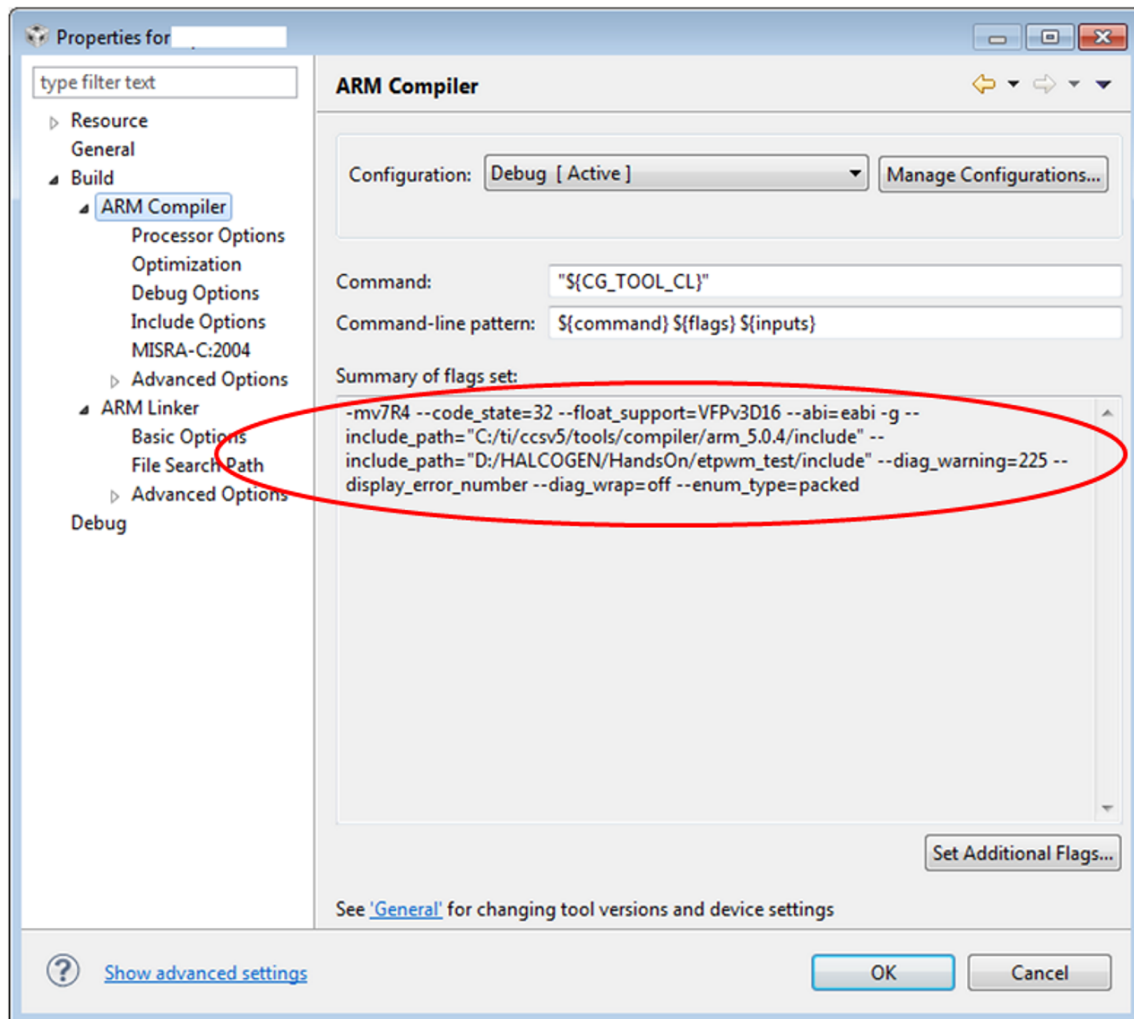

Figure 15. Compiler Option Select
- ARM compiler options can be obtained from the appropriate device project file in the Code Composer Studio as shown in Figure 15 (Step 1).